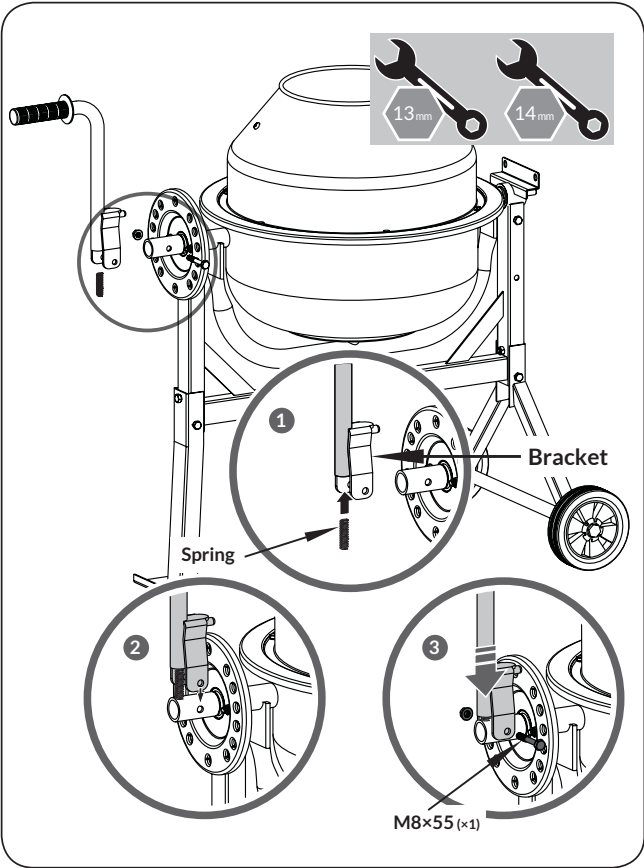

Figure 5b
2. Insert the spring into the bar pipe, hold the spring in place with a finger, and place the bar over the larger diameter shaft so the spring stays inside the bar pipe. (See **Figure 5b, Illustration 1**) Press down on bar pipe until the holes in the bracket line up with the hole drilled in the shaft. (See **Figure 5b, Illustration 2**) Insert a M8×55 hex bolt through the hole, place a flat washer on the bolt, and secure with nut. (See **Figure 5b, Illustration 3**) Secure the nut against the bracket (do not over-tighten, as this will prevent the bracket from pivoting on the bolt).